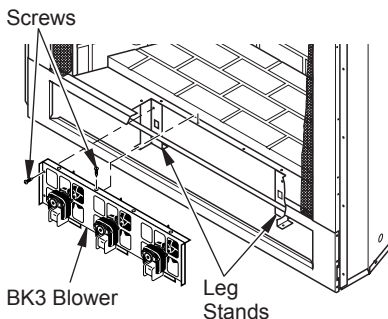

Figure 14 - Mounting BK3 Blower
2. Place BK3 fan assembly between two leg stands with fan blades pointing toward rear of fireplace (see Figure 14).